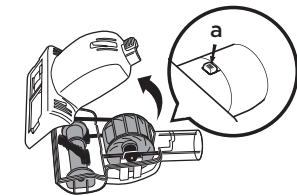

Fig. 26
- 1 Slide the locking latch **(a)** forward and lift off the brushroll housing. **(Fig. 26)**